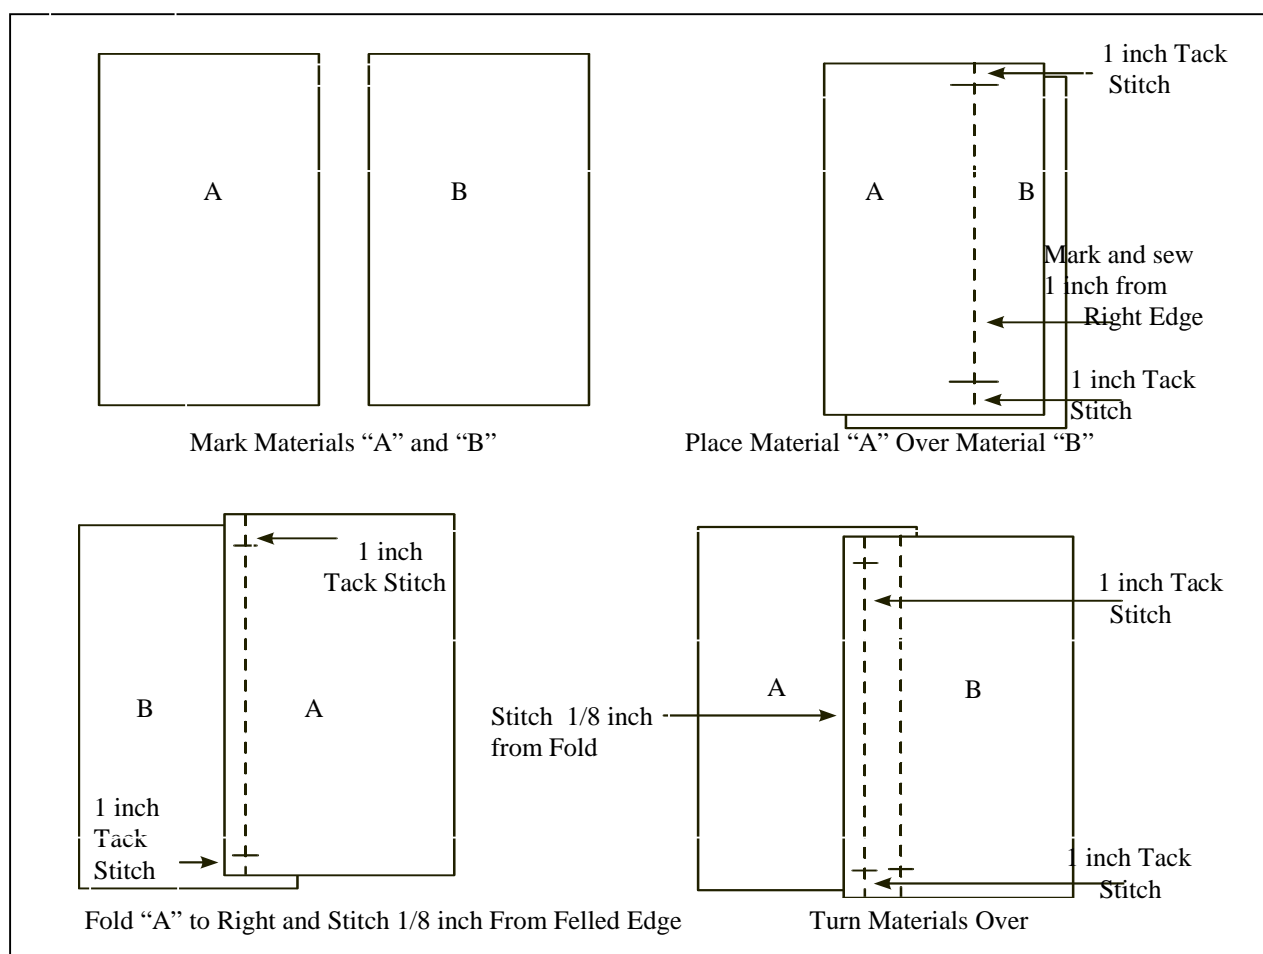

Figure 8-7. Single-felled seam
d. Single-Felled Seam. The single-felled seam (Figure 8-7) is similar to the welt seam used on clothing, but the single-felled seam is sewn with two rows of stitches. This seam is used to join two pieces of canvas when the outside has to be finished and the inside does not. It is also used to sew on patches. To make a single-felled seam--
(1) Sew piece A and piece B together with a simple seam but stitch the seam 1 inch from the right edge.
(2) Lift piece A up and over to the right so that both pieces are faceup and both seam allowances are to the right underneath.
(3) Tack the beginning of the seam, and sew a row of stitches 1/8 inch to the right of the fold through all three layers (piece A and seam allowances). Tack the end of the seam.
(4) Turn the pieces facedown.
(5) Tack the beginning of the seam, and sew a row of stitches 1/8 inch to the right of the raw edges through all three layers. Tack the end of the seam.